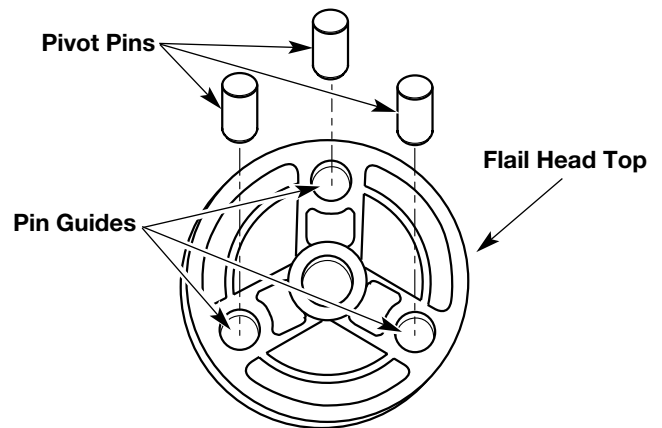

Fig. 5
1. Insert the three Pivot Pins into the pin guides in the Flail Head Top (Fig. 5).